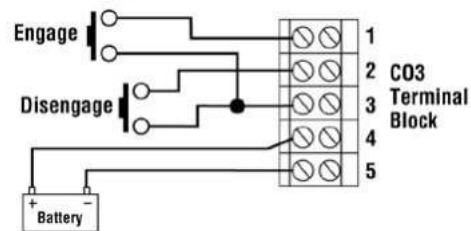

Figure 4: CO3
When the CO3 receives a signal to engage, the heavy-duty DC motor operates to extend the actuator shaft and yoke a predetermined length. Length of extension is controlled by the adjustable cams in the control housing. When disengaging, the motor reverses and retracts the actuator shaft. At engagement end of the stroke, the actuator backs off from its maximum travel to relieve pressure on the clutch or other device. Refer to Figure 4.
2. Remove the clutch lever and reposition it approximately 45 degrees from vertical, toward the rear of the clutch (Figure 4).
4. Place the CO3 in direct line with the clutch lever until the inner roller touches the clutch lever at an approximate 90 degree angle (See detail in Figure 4).
5. Bolt the CO3 to the stabilizer arm to hold the angle of incidence to the clutch arm (Figure 4).